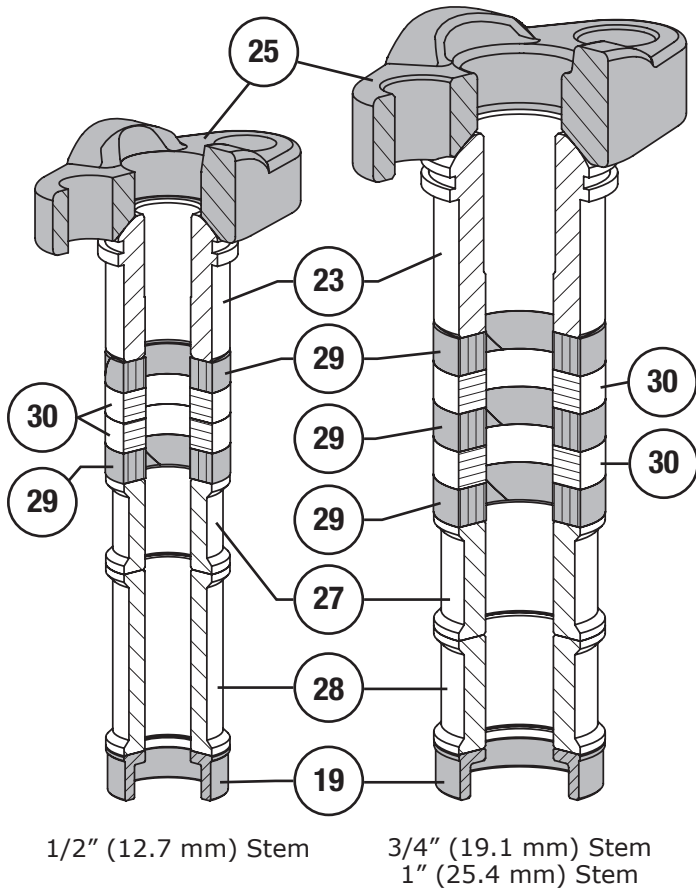

Figure 29 Graphite Packing Arrangement Diagram
- 6 Install the remainder of the graphite filament (Key 29) and graphite ribbon (Key 30) one at a time (as shown in Figure 29) in the proper order and orientation as shown in Figure 29.